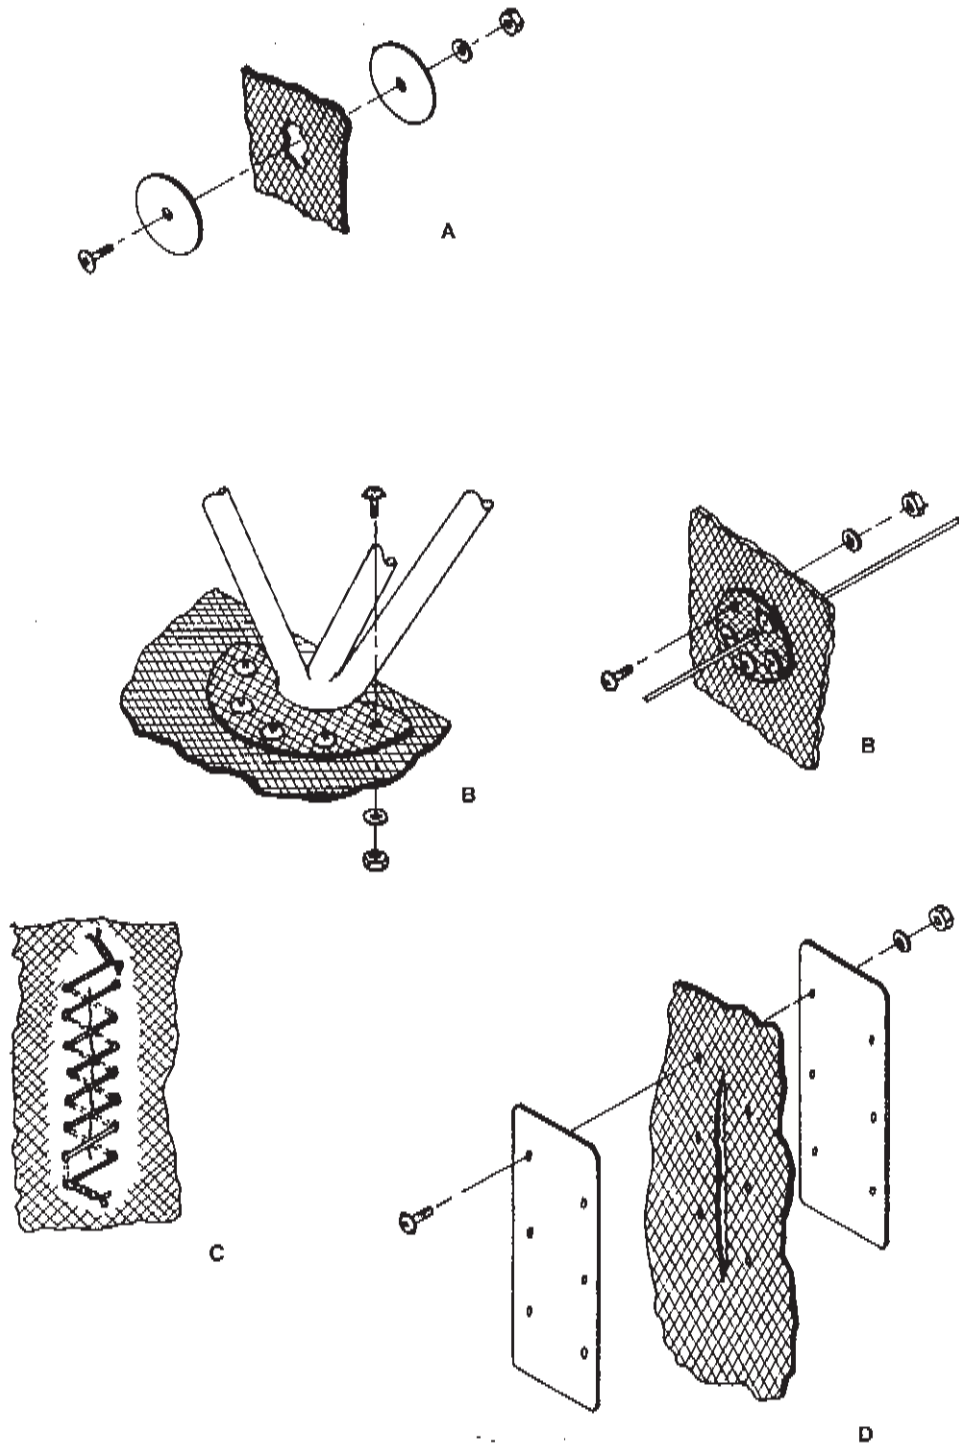

FIGURE 13-14
D. Firewall Repairs (See Fig. 13-14)
- (1) Clean area of repair with acetone.
- (2) Holes up to 1/4 inch in stainless steel cabin firewall:
- (3) Holes up to 1 inch in fabric (see Fig. 13-14 A):
- (a) Form (2) round patches of 0.015 thick stainless steel, allowing 1/2 inch overlap on all sides of existing hole.
- (e) Fasten patches over the hole with (1) AN525-6R6 screw, (1) AN960-6L washer, and (1) AN364-632 nut.
- (4) Areas of worn fabric around pylon tubes or cables (see Fig. 13-14 B):
- (5) Tears in fabric material which are less than 3" in length (Fig. 13-14 C):
- (6) Tears in fabric material in excess of 3 inches in length:
- (a) Cut two 1-inch wide strips of .015 inch stainless steel to a length allowing for 1/2 inch overlap at each end of the repair (Fig. 13-14 D).